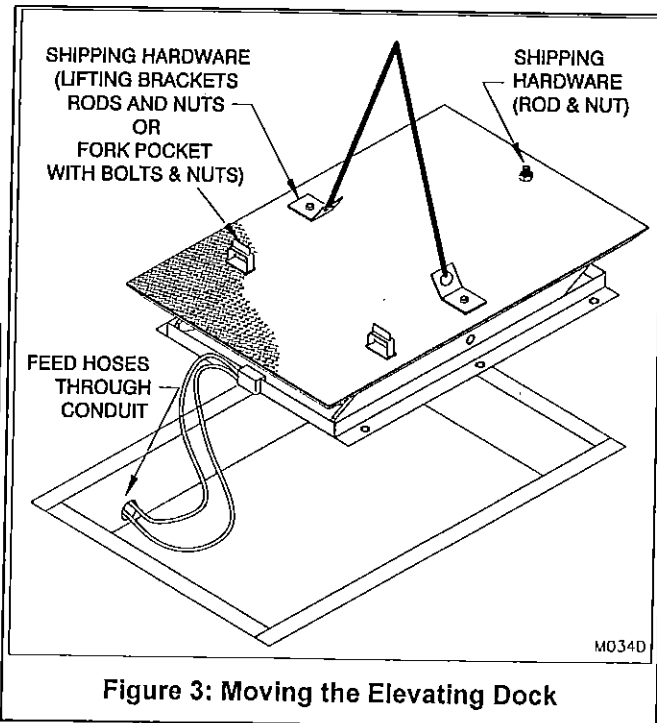

Figure 3: Moving the Elevating Dock
7. Hoist the elevating dock into the pit. At the same time, feed the hydraulic hose through the conduit from inside the pit toward the power unit. (See Figure 3, Page 4)
9. Remove all shipping bolts and hardware. (See Figure 3, Page 4).